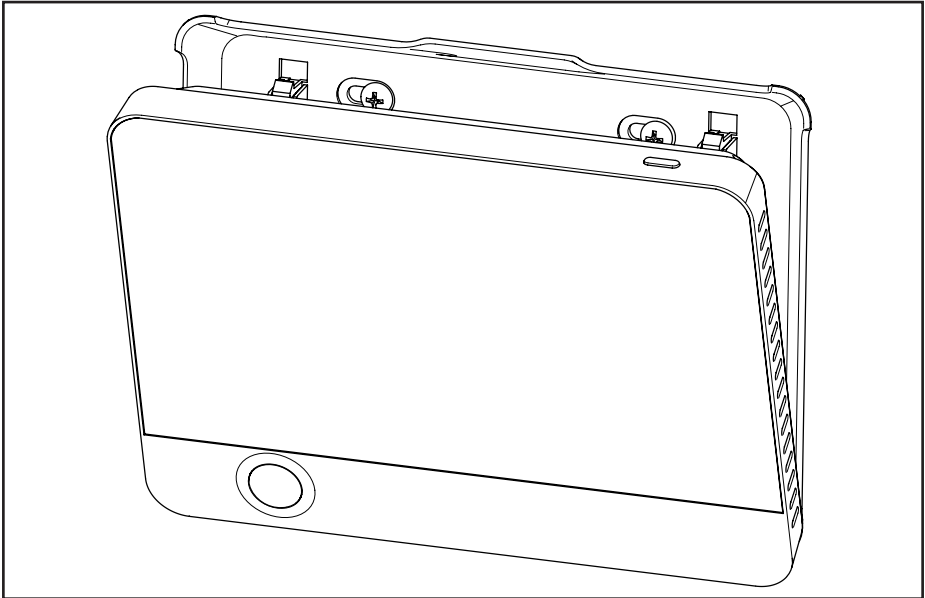

Figure 7. Snap Controller Into Place
5. Push the controller back toward the wall until it “snaps” into place. See Figure 7.